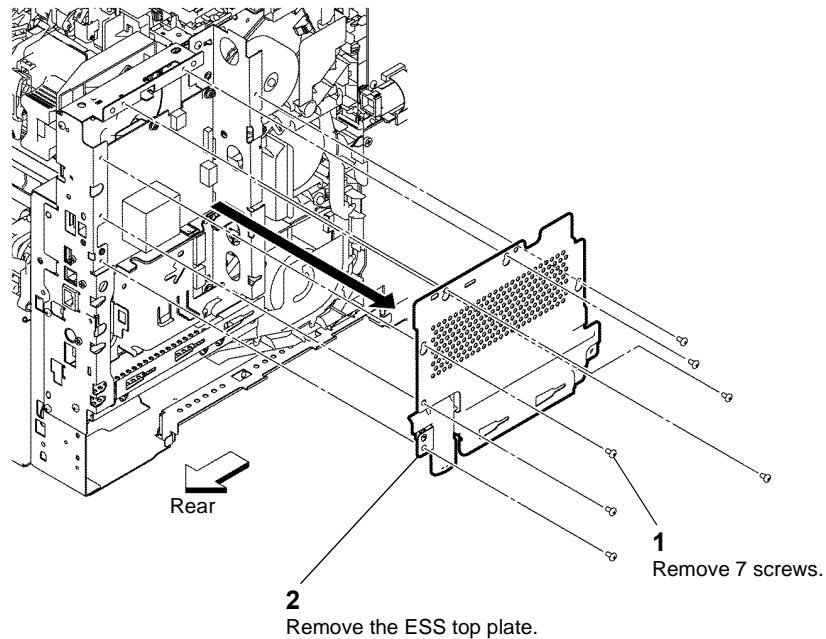

Figure 1 ESS top plate
3. Remove the ESS top plate, Figure 1.